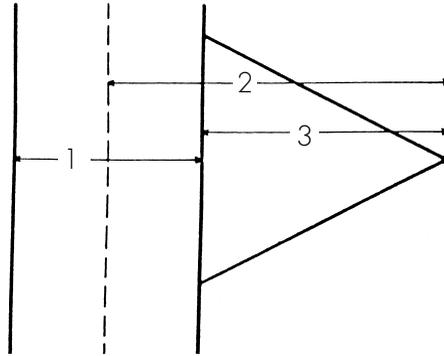
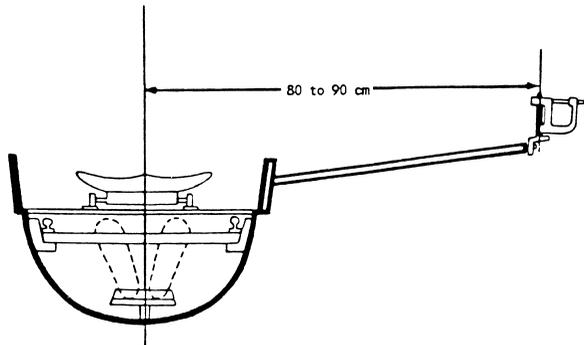

Fig. 8 - Measuring the distance from the Pin to the centre of the Boat
Figure 9 – A Standard Measurement
- 1) Measure the width of the boat at the point perpendicular to the pin (see 1 in figure 8).
- (2) Determine the distance from the edge of the boat to the centre of the pin (see 2 in figure 8).
- (3) The result of measurement 2 added to one-half the measurement 1 will provide the measure of 3 (see figure 8) which is the distance of the pin from the centre of the boat. This distance is usually measured within the range of 80 to 90 cm (see figure 9).